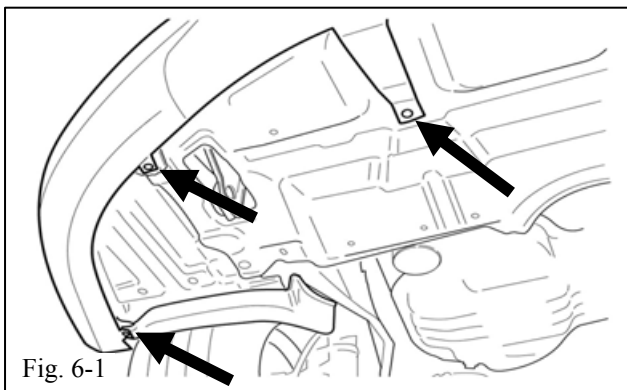

Fig. 6-1
- (a) Reinstall the front LH & RH inner splash shields. Complete by reinstalling all of the original fasteners in the bottom of the front bumper, while capturing the front skirt. (Fig. 6-1)